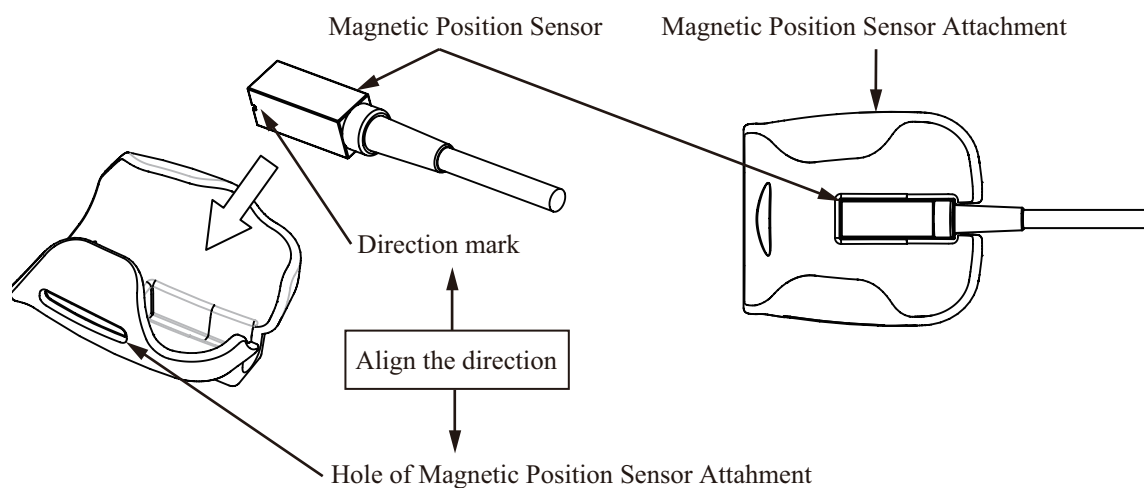

Figure 3 How to attach Magnetic Position Sensor
- (1) Align the direction mark of the magnetic position sensor and the hole of the magnetic position sensor attachment and place the sensor into the attachment as shown in Figure 3.